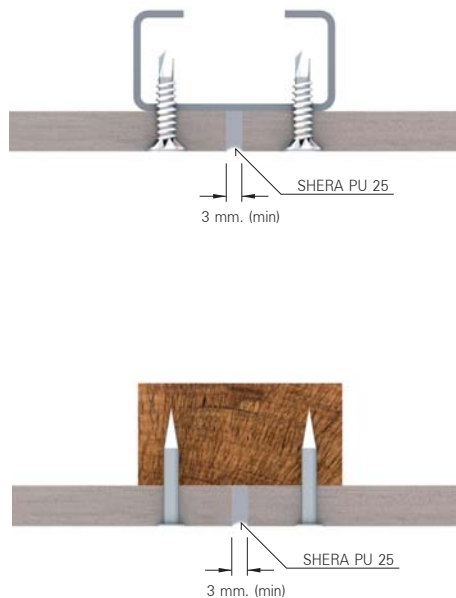

Figure 8 : Polyurethane Joint
- When width of stud at the joint is less than minimum requirement (38 mm.), additional stud or steel angle must be attached to ensure that the sheets are adequately supported. See figure 8 and 9 for correct joint details.
In wet or external wall area, polyurethane based sealant such as SHERA PU25 should be used to seal the joint between two sheets. For PU Joint, joint gap between the edges of sheet should not be less than 3 mm. See figure 8 for details.